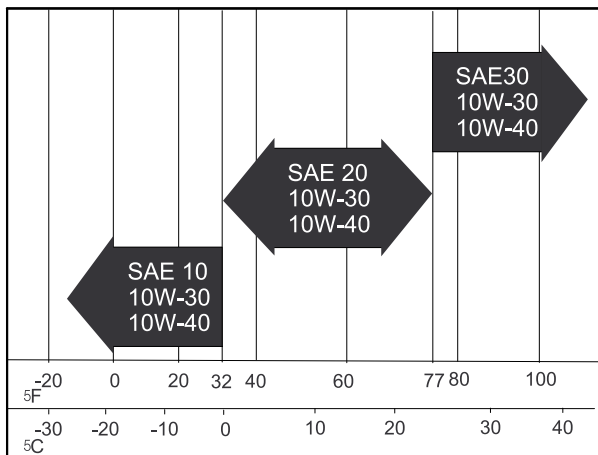

Figure 14
**Engine-oil viscosity:** Choose an engine-oil viscosity according to the ambient-air temperature to the table in Figure 14.